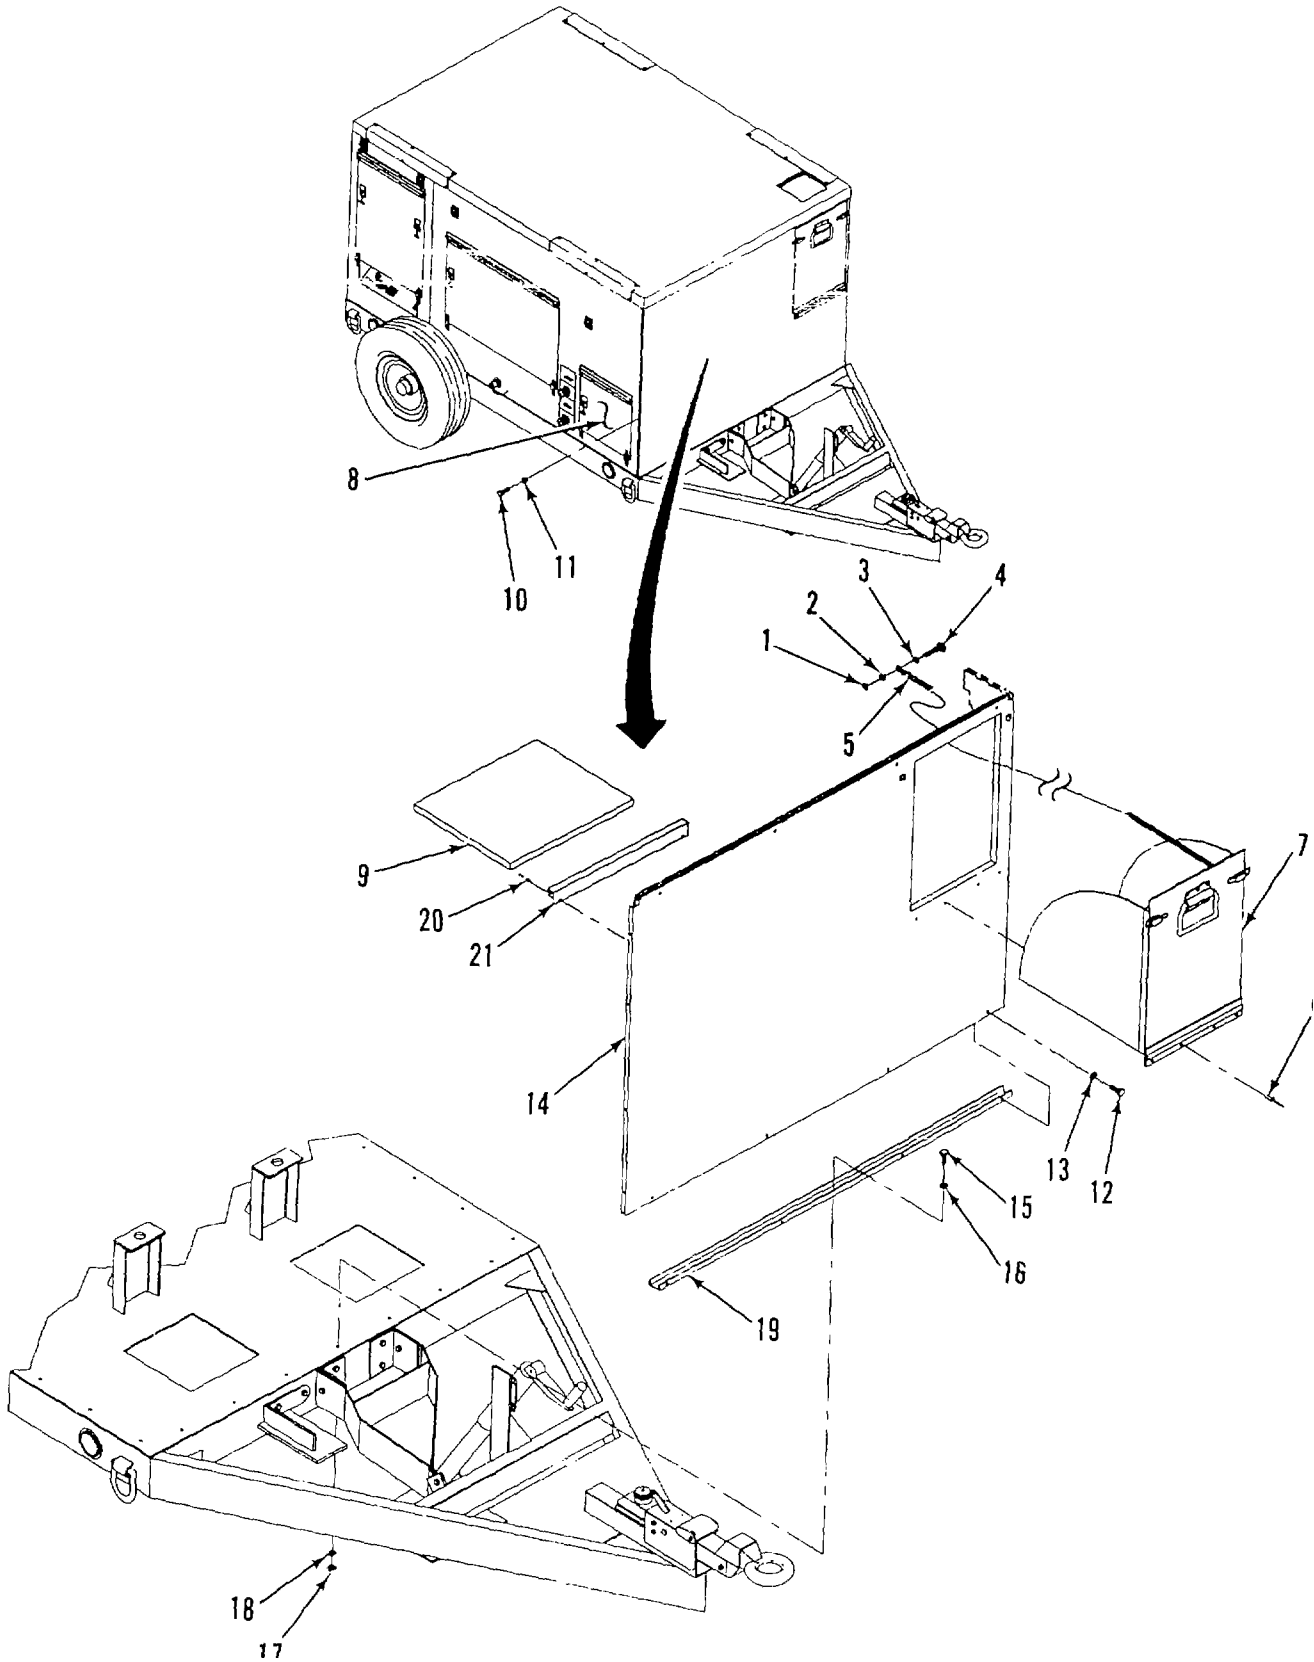

Figure 3-5. Front Panel and Exhaust Panel Assembly
a. REMOVE. (Figure 3-5)
- (1) Remove nut (1), flat washers (2 and 3), and bolt (4) that secures chain (5).
- (2) Remove rivets (6) (para. 3-6).
- (3) Remove hinged exhaust panel assembly (7).
- (4) Open air filter access door (8) and remove shelf (9) above air filter assembly.
- (5) Remove bolts (10) and flat washers (11).
- (6) Remove front panel (14).
- (7) Remove bolts (15), flat washers (16), nuts (17), and lockwashers (18).
- (8) Remove front panel mounting bracket (19).
- (9) Remove rivets (20) (para. 3-6) and support bracket (21).